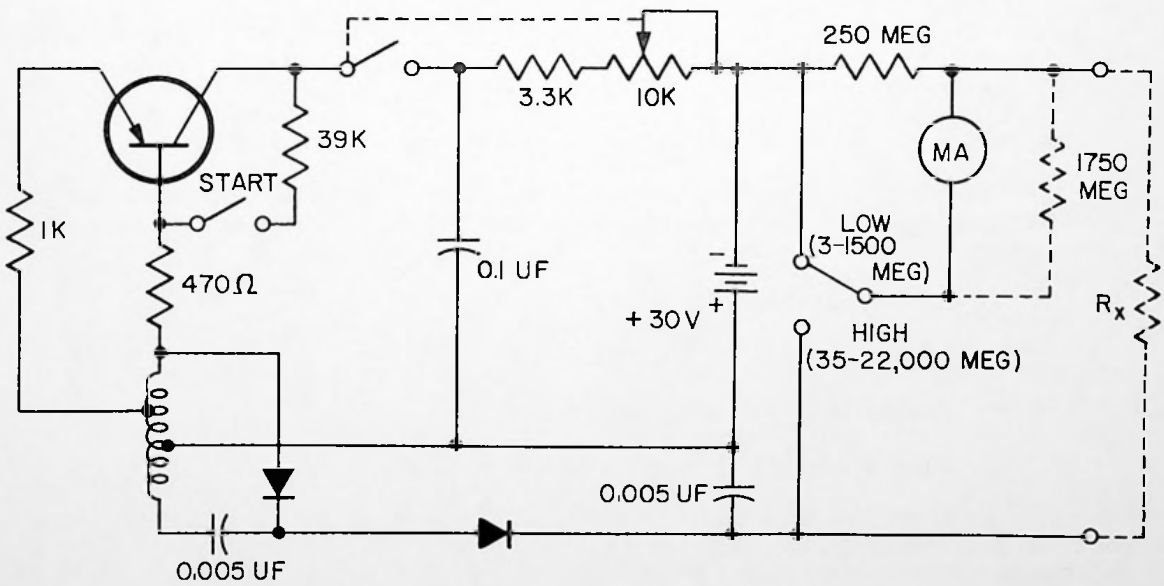

Figure 14. Two-range megohmmeter circuit.
b. Megohmmeter. Figure 14 shows the circuit of a two-range megohmmeter employing a transistor as a high-voltage generating circuit. The two ranges of operation are 3-1500 megohms and 35-22,000 megohms. Rx represents the resistor being checked. High voltage is supplied by the battery-driven transistor oscillator with a step-up autotransformer which feeds a selenium rectifier voltage-doubling system. The transistor functions as an automatic switch which connects the tuned circuit to the battery supply during each negative alternation. The peak-to-peak voltage developed across the tuned circuit then becomes equal to twice the battery voltage. In accomplishing switching, the operation of the transistor is very similar to that of an astable (free-running) multivibrator. This mode of operation provides the advantage of low collector dissipation during both cutoff and conduction. Since a transistor has no gain at zero bias, oscillations may be delayed in starting during periods of low ambient temperatures. Consequently, a fixed 39K resistor is connected between the collector and base, which reduces the time required for starting oscillations. A switch allows the insertion of this resistor when starting; it is opened after oscillations have begun to avoid overloading the tuned circuit. The megohmmeter has a high internal resistance which minimizes the hazard of electrical shock to personnel handling the test leads. The high-voltage generator can also be used to supply operational voltage for Geiger-Mueller radiation counters, image-converter tubes, stroboscopic photo flash tubes, or small cathode-ray tubes.
131. When using the megohmmeter shown in figure 14 of the Attached Memorandum, operating personnel are protected from electrical shock by the
132. The transistor oscillator circuit in the megohmmeter shown in figure 14 (Attached Memorandum) functions as a high-voltage generator. It can be used to supply a high dc voltage in a number of practical applications, including